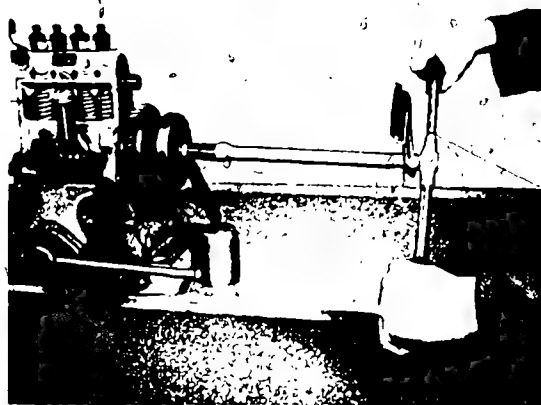

Fig. 17 Use 1 687 950 514 (EFEP 361) wrench to prevent rotation when tightening round nuts
1. Use pin wrench 1 687 950 015 (EFEP 231) to unscrew round nut, using 1 687 950 514 (EFEP 361) wrench to keep timing device in fixed position (see Fig. 17).
10. Remove timing device from 0 681 340 015 (EFEP 322) assembly tool and fit on injection pump. When the round nuts are tightened (tightening torque 6-7 kgm [43.4-50.6 lb.ft.]) with any commercially available torque wrench and an EFEP 231 pin wrench, the coupling flange should be prevented from rotating with an 1 687 950 514 (EFEP 361) wrench (see Fig. 17). The gear should not be held for this purpose as parts may be overstressed and the springs may become permanently set.